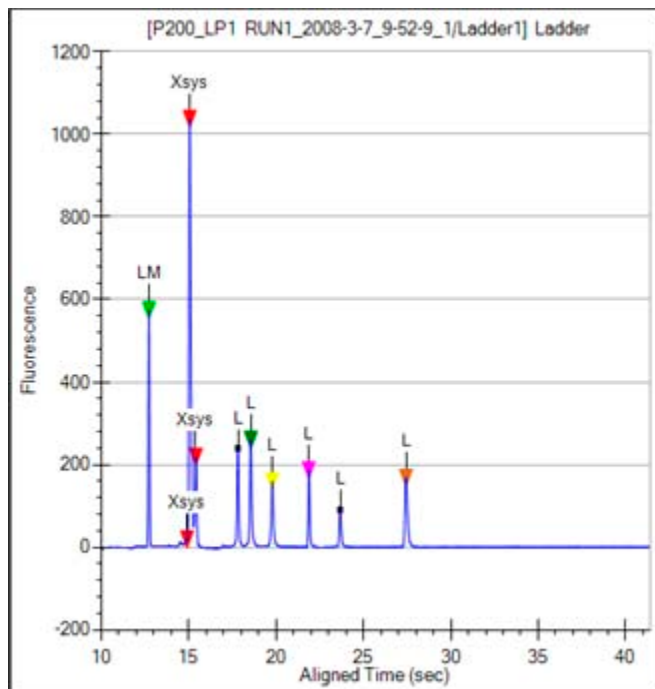

Figure 8. Ladder Graph - Protein
- 4 A sizing ladder (see Figure 8), which is a mixture of protein fragments of different known sizes, is run from the ladder vial before and after every 12 samples. The sizes of the individual proteins (in kDa) are preset in the assay and cannot be changed.